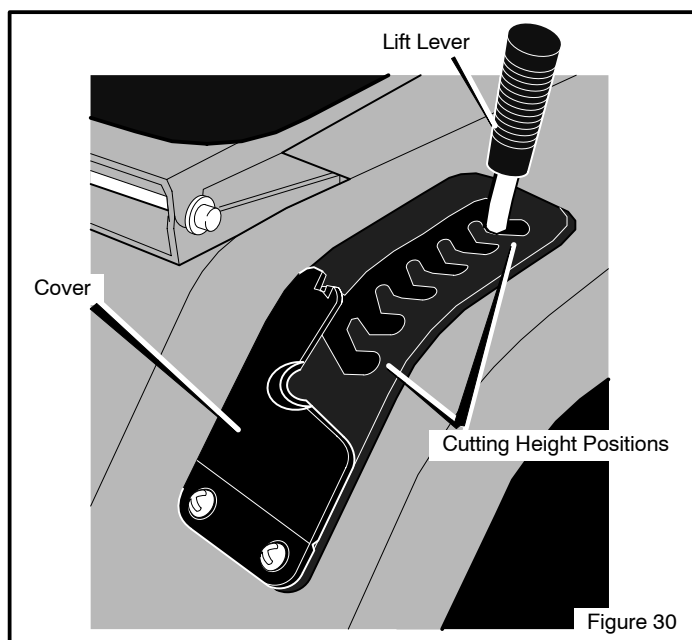

Figure 30
8. Raise the **lift lever** from the LEVEL ADJUSTMENT position to a CUTTING HEIGHT position (Figure 30).